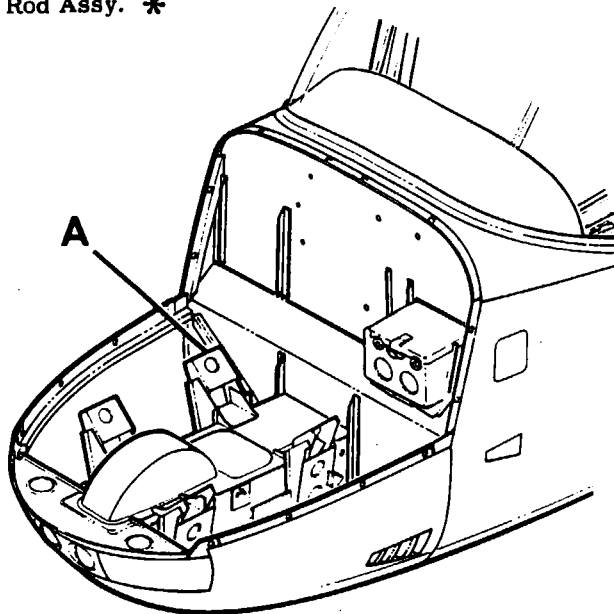

Figure 12A-2. Engine Mount Installation
If shock-mounts will be reused, mark each one so it will be reinstalled in exactly the same position. If new shock-mounts will be installed, position them as illustrated in figure 12A-2.
- b. Install engine shock-mounts and ground strap as illustrated in figure 12A-2.